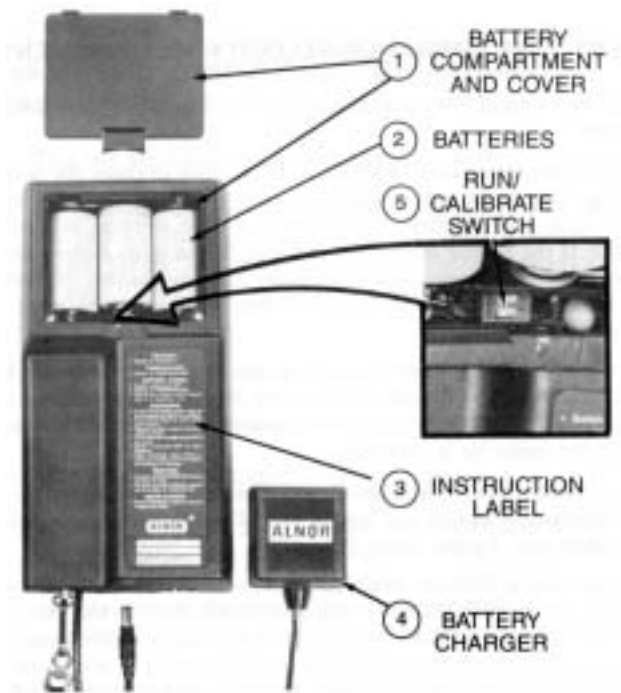

Figure 5. Rear View of the ThermoAnemometer
2. Move RUN/CALIBRATE switch to OFF (both switches if two available). See Figure 5 for location of switch.